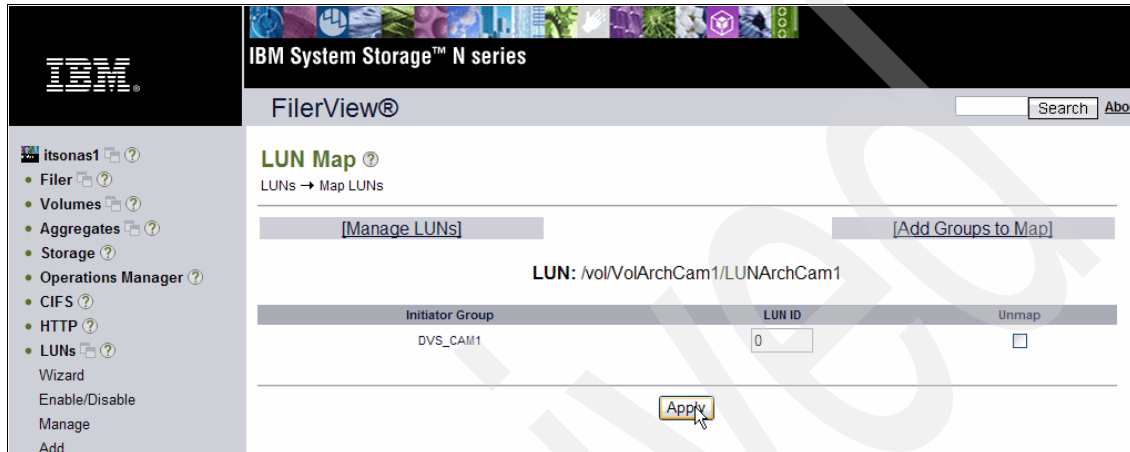

Figure 7-33 LUN ID selection
- As shown in Figure 7-33, define the LUN ID, which is how we differentiate the different LUNs that are associated to a single initiator group. The best thing is to begin with LUN ID 0, and increment one by one. In our case, it was the first LUN defined for this initiator so we chose **LUN ID 0**.